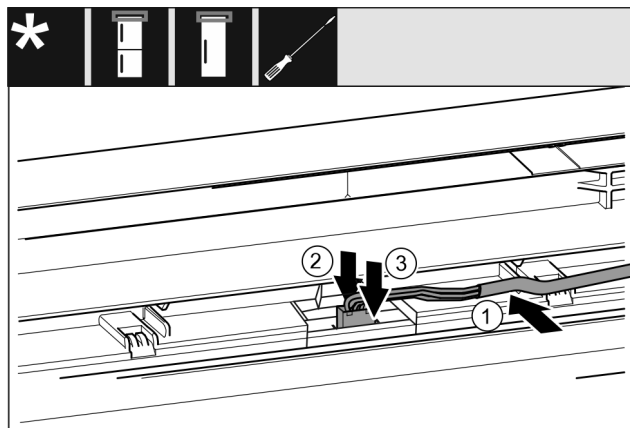

Fig. 40 Fridge/freezer combinations / freezers / refrigerators
- Insert the cable Fig. 40 (1) into the guide in the top door.
- Push the latching tab Fig. 40 (2) backwards.
- Engage the plug Fig. 40 (3).